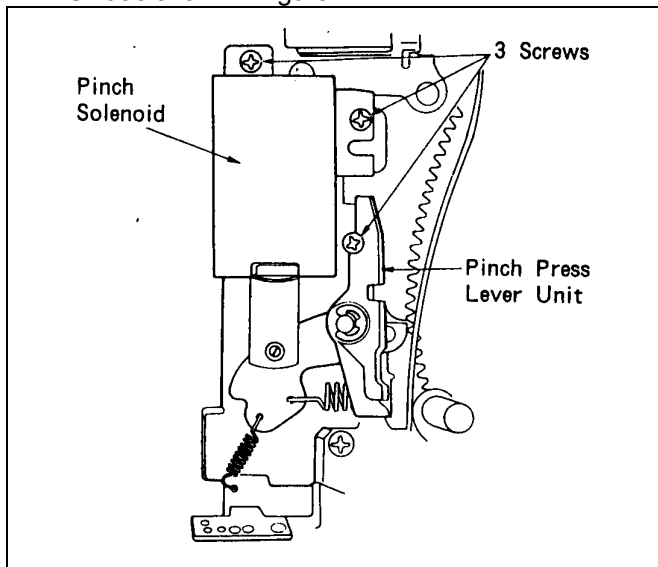

Figure 7-11-2 Pinch Solenoid Removal
4. Unscrew 3 Screws (A) and hand off Pinch Solenoid Unit as shown in figure 7-11-2.